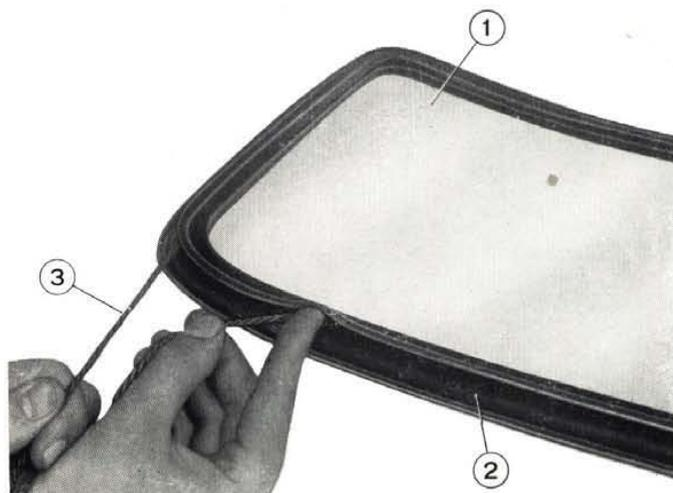

Fig. 406 - Arranging draw cord, preparatory to windshield glass installation.
- insert a draw cord in the weatherstrip groove as shown in fig. 406;